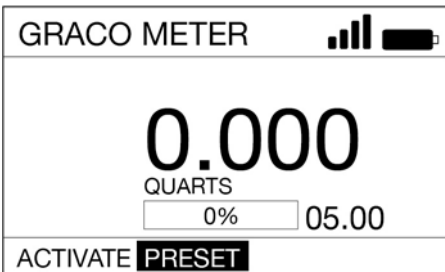

FIG. 32
3. Use the RIGHT ARROW to highlight PRESET (H) on the screen. Press The ENTER button to select PRESET(FIG. 32).